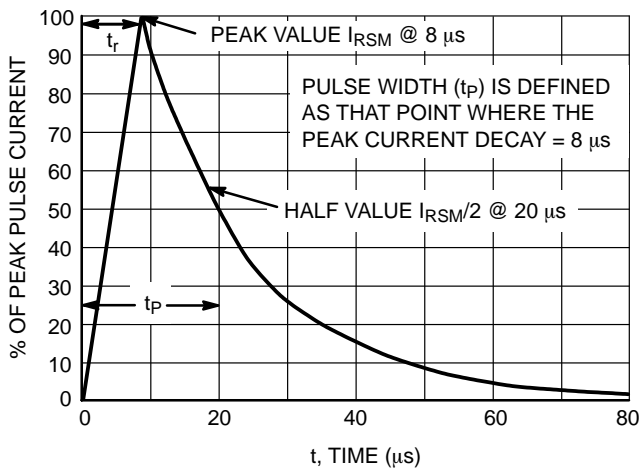

Figure 3. 8 x 20 μs Pulse Waveform
1. Non-repetitive current pulse per Figure 3
4. $8 \times 20 \mu\text{s}$ pulse waveform per Figure 3